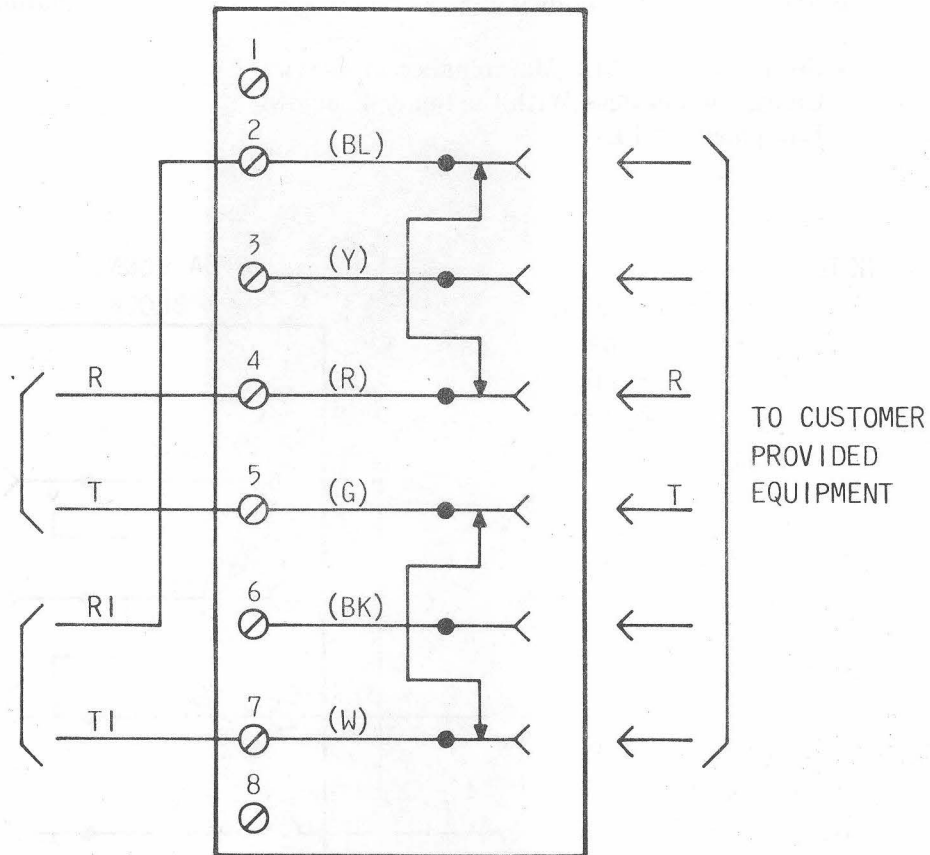

Fig. 2—Connections for USOC RJ32X
2.02 USOC RJ32X: This arrangement (Fig. 2) also provides a series tip and ring connection through the 635A connecting block but is used where the CPE is connected at the station, such as an automatic dialer.